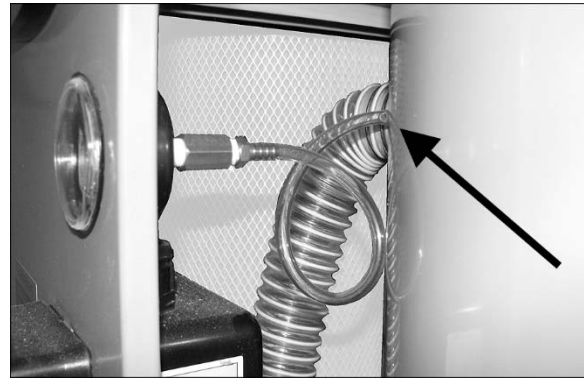

Figure 13
23. Slide free end of pressure gauge tube onto housing. See Figure 13.